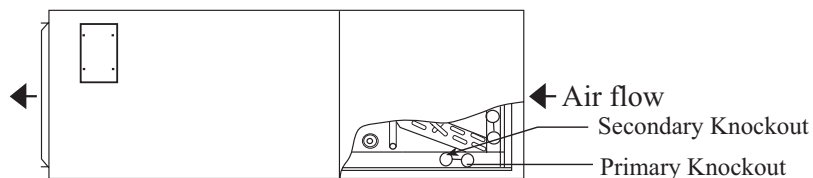

Fig.2
7) The Airhandler can now be placed in its left horizontal position as shown in Fig.2. The Airhandler must be leveled and then pitched 1/4" toward drain side. **Important:** Drain pan must be tested for proper drainage by pouring water into the pan. Traps must be installed on the primary drain and on the secondary drain if used.